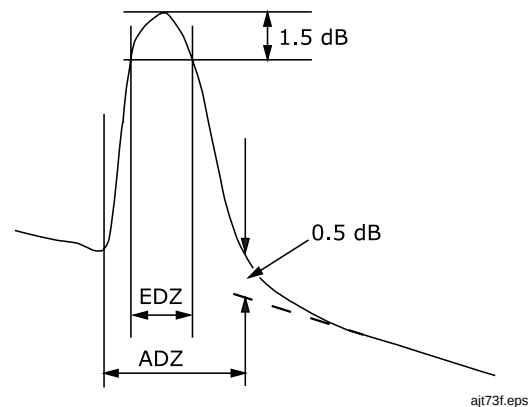

Figure 38. Event and Attenuation Deadzone Measurement Methods⁵
2. Measured at 1.5 dB below reflection peak for typical connector with UPC polish (reflectance < -37 dB multimode) using narrowest pulse width (4 ns at 850 nm; 8 ns otherwise) at near end (100 m, which excludes dispersion). See Figure 38. 3. Measured at ± 0.5 dB beyond backscatter for typical connector with UPC polish (reflectance of < -37 dB multimode) using 40 ns pulse width (20 ns at 850 nm) at near end (100 m, which excludes dispersion). See Figure 38. 4. Distance ranges for typical fiber loss. For typical fiber with backscatter coefficients of -67 dB at 850 nm and -74 dB at 1300 nm. Manual mode provides a nominal 8 km range for multimode; however, the typical ranges for measuring loss are shown here. 5. SNR=1 method. Subtract 1.8 dB to compare to Telecordia 98 % method.
1. For singlemode: measured at 1.5 dB below the reflection peak for a typical singlemode UPC connector (< -50 dB reflection using 5 ns pulse width). Refer to Figure 38.
2. For singlemode: measured at ± 0.5 dB beyond the backscatter for a typical singlemode UPC connector (< -50 dB reflection using 20 ns pulse width). Refer to Figure 38.